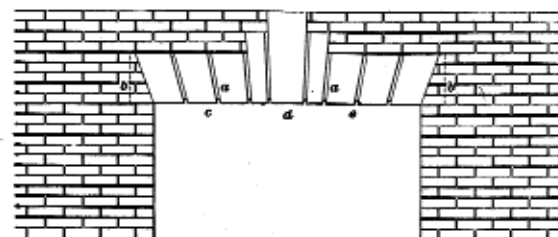

FIG. 57.
**102.** When an arch is so flat as to have practically no rise, it should be cut out of one piece of stone, being really a solid lintel with false joints cut on its face, as shown at *a, a*, Fig. 57. The ends of this lintel should have a bearing on the wall of 4 or 5 inches, as indicated by the dotted